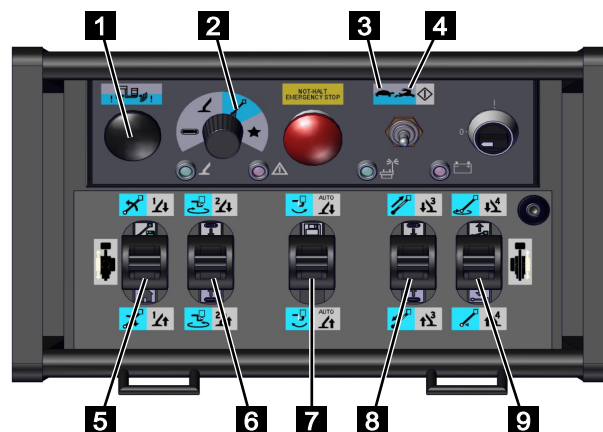

Fig. 139
5. Set the function selector on the control to [platform function] (blue) (Fig.139/2).
6. Use the mode selector on the control to select [crawl speed] (Fig.139/3) or [fast speed] (Fig.139/4).
7. In certain ranges, it will be necessary to press the collision button. To do so, you need to press and hold the collision (Fig.139/1) button while simultaneously using the desired control lever.
8. Use the control levers (Fig.139/5, 6, 7, 8 and 9) to operate the platform as per the following table.